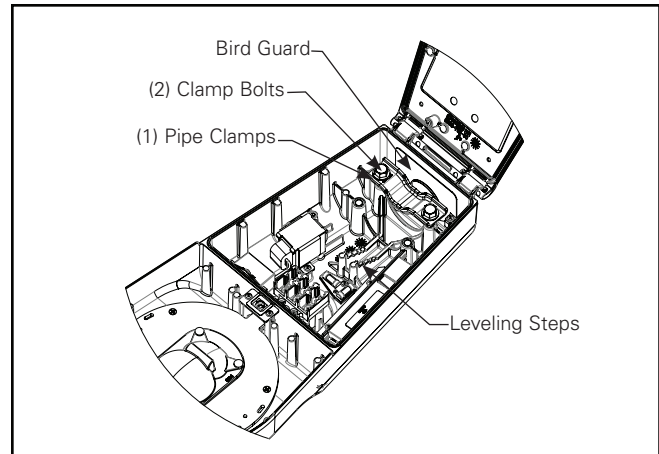

Figure 2.
4. If using a 1-1/2" pipe, remove the clamp bolts and flip clamps so that pipe size is visible from the top. The clamps must be reversed for the smaller pipe size option. (Figure 2)